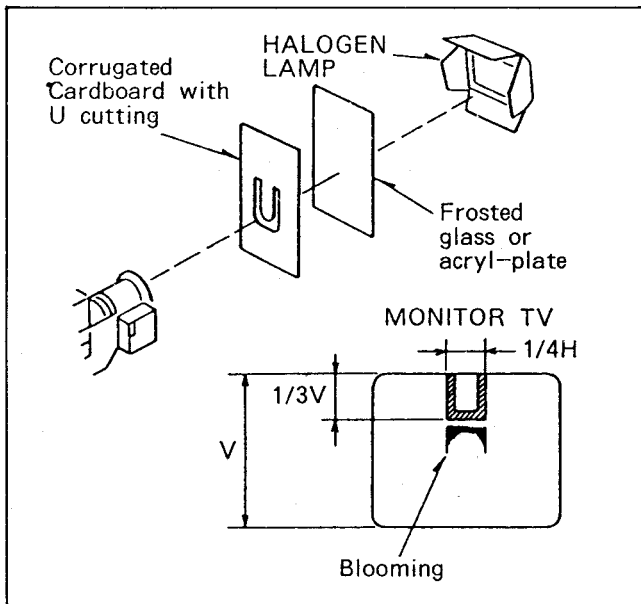

Fig. C12
1. Zoom all the way in (full tele position or full wide position) and aim the camera at the Halogen Lamp as shown in Fig.C12.
3. Diffuse the incoming light using frosted glass or acryl plate. Place the cardboard which has been cut to "U" shape as shown in Fig.C12. between the diffusion plate and the camera.